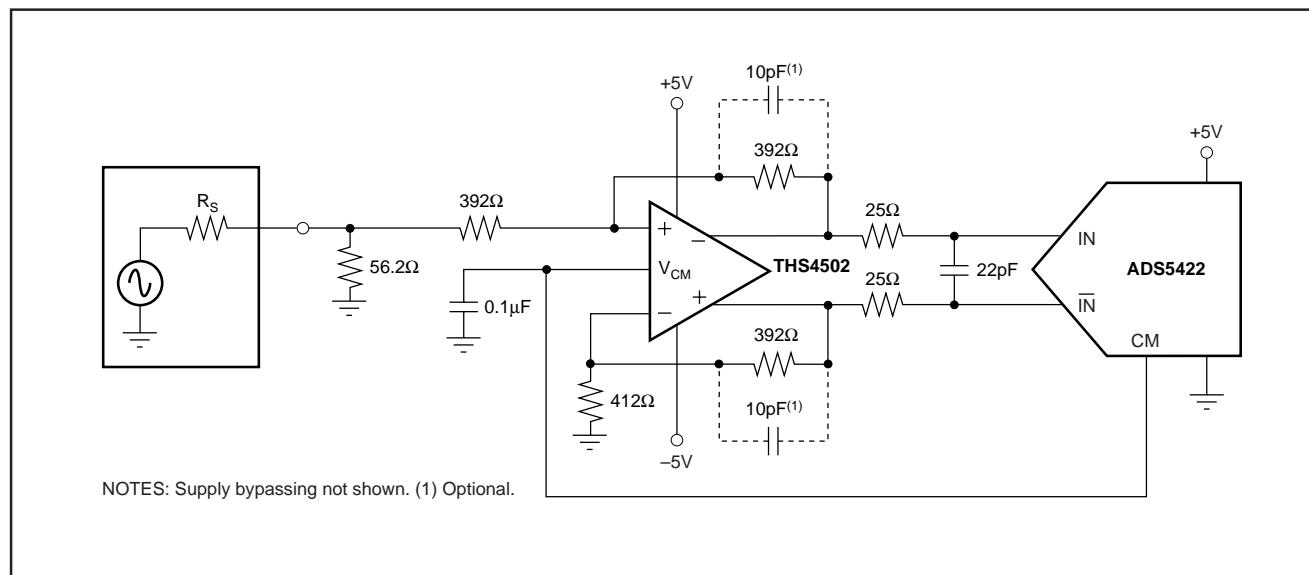

FIGURE 3. Using the THS4502 Differential Amplifier (Gain = 1) to Drive the ADS5422 in a DC-Coupled Configuration.
The following section provides some principal circuit suggestions on how to interface the analog input signal to the ADS5422. Applications that have a requirement for DC-coupling a new differential amplifier, such as the THS4502, can be used to drive the ADS5422, as shown in Figure 3. The THS4502 amplifier allows a single-ended to differential conversion to be performed easily, which reduces component cost. In addition, the  $V_{CM}$  pin on the THS4502 can be directly tied to the common-mode pin (CM) of the ADS5422 in order to set up the necessary bias voltage for the converter inputs. As shown in Figure 3, the THS4502 is configured for unity gain. If required, higher gain can easily be configured, and a low-pass filter can be created by adding small capacitors (e.g., 10pF) in parallel to the feedback resistors. Due to the THS4502 driving a capacitive load, small series resistors in the output ensure stable operation. Further details of this and other functions of the THS4502 may be found in its product